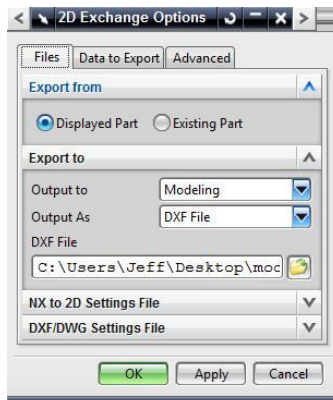

Figure 12
- k. See settings (shown Figure 12). Under DXF file, **select** the directory and name to save.